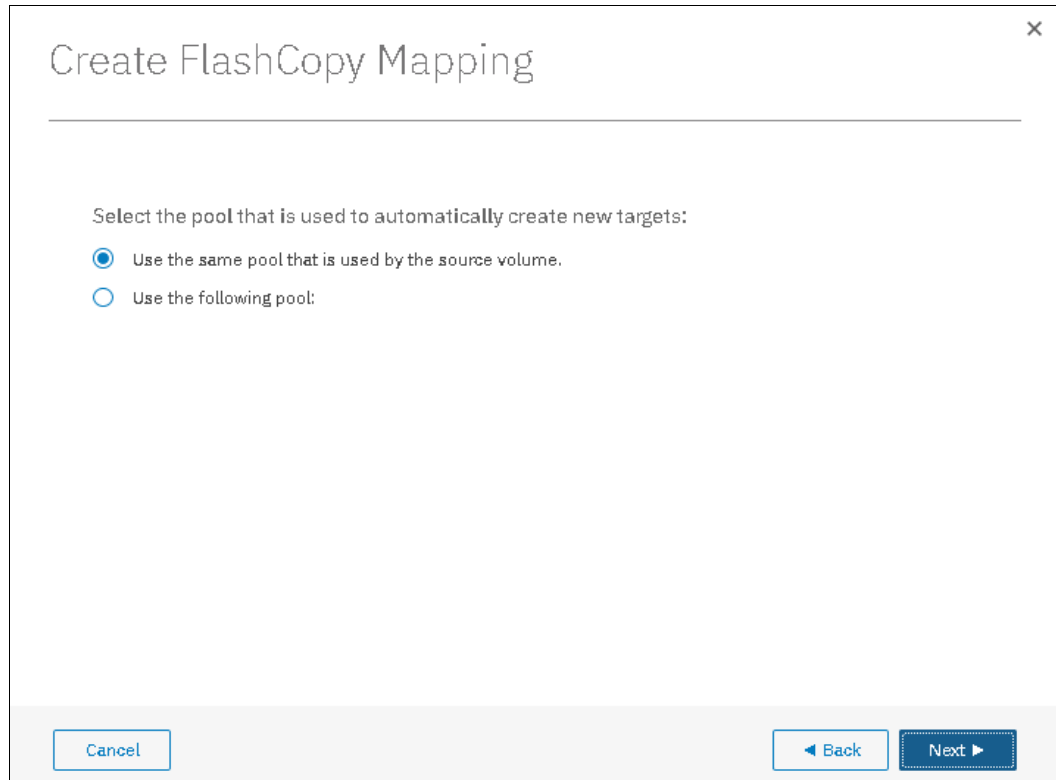

Figure 10-24 Select pool to create new target
4. In the next window, select the pool that is used to create the target, as shown in Figure 10-24 on page 501. Click **Next**.